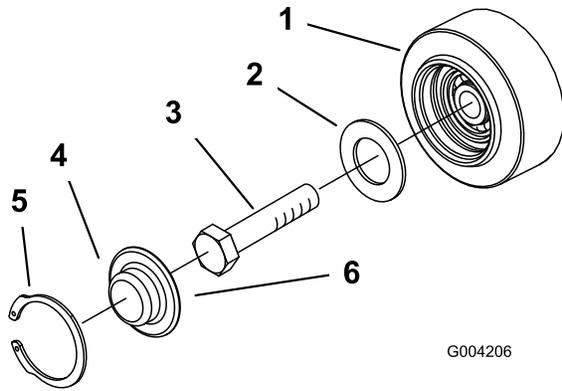

Figure 49
- Remove the snap ring and cap from a road wheel (Figure 49).
- Check the grease under the cap and around the gasket (Figure 49). If it is dirty, gritty, or depleted, clean out all of the grease, replace the gasket, and add new grease.